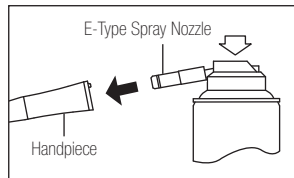

Fig. 5
- 3) Insert the Spray Nozzle in rear of the handpiece. Hold the handpiece and spray for approximately 2-3 seconds. Apply lubricant until it is expelled from the handpiece head for at least 2 seconds. (Fig. 5)
- 3) Lubricate handpiece by using NSK PANA SPRAY (Fig. 5) or Care3 Plus.